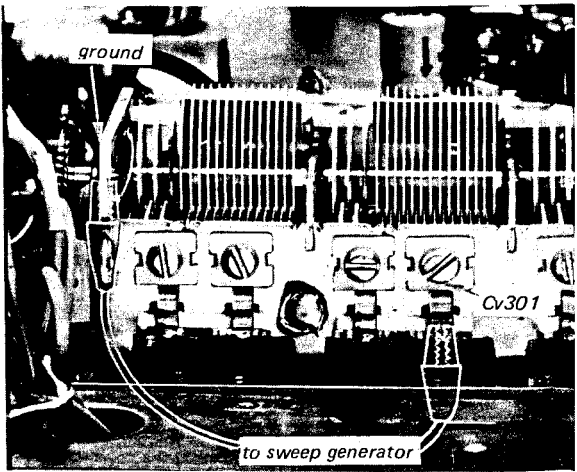

Fig. 3-10 445 kHz sweep signal injection
1. Connect the sweep generator's output across (variable capacitor) Cv301 as shown in Fig. 3-10.
2. Connect the rf signal-generator's output across variable capacitor, Cv301 as shown in Fig. 3-10.